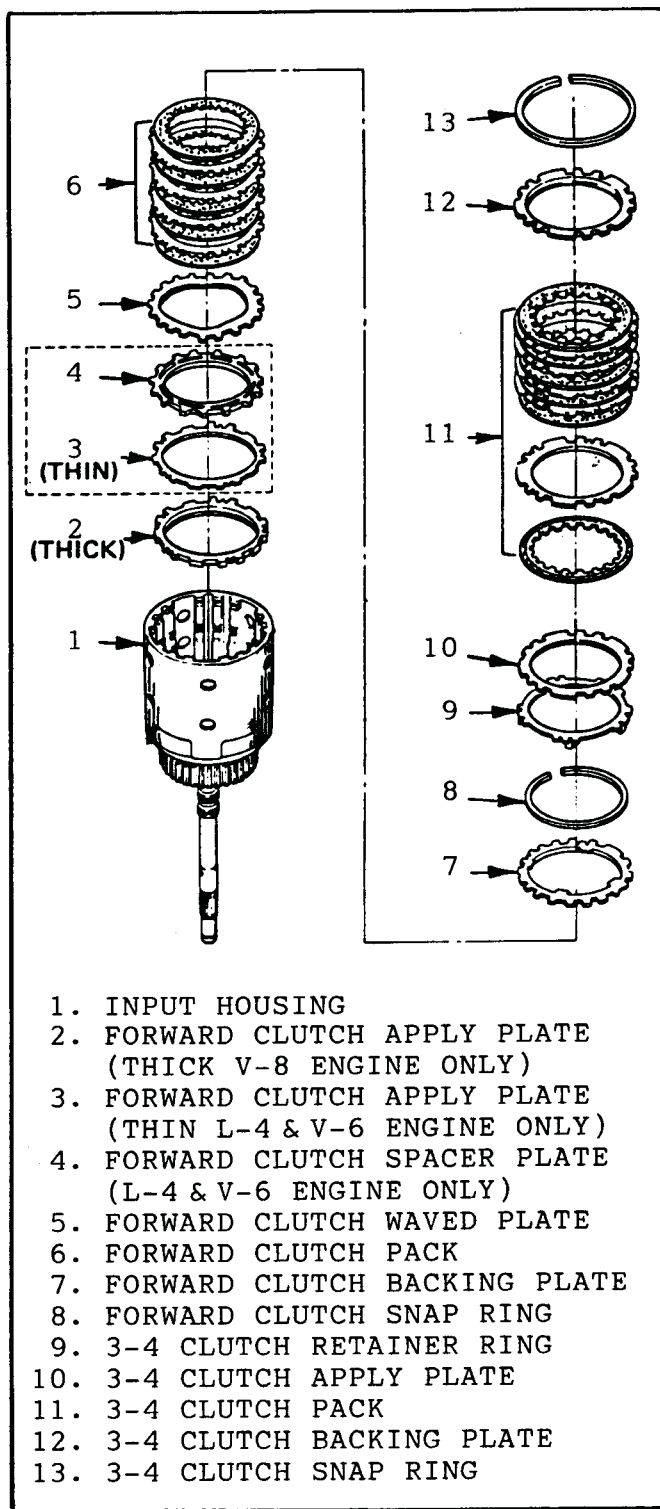

Figure 87
1. Install the 3-4 clutch retainer ring (Figure 87). Be sure that each tab on the retainer is on the outside of the legs of the 3-4 clutch piston. This retainer is used to keep the legs of the 3-4 clutch piston from spreading under load.